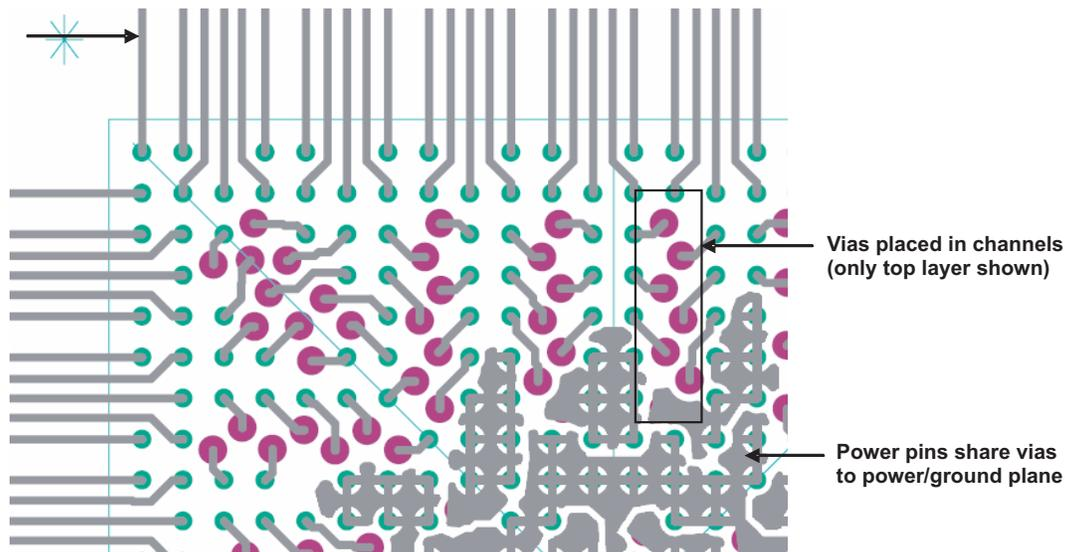

Figure 3. Vias in Via Channels
The rest of the vias need to be placed into the via channels as shown below. Figure 3 shows how the vias are grouped in the via channels.
- c. The third via can go as close as possible to the second, and so on, until all the necessary vias are placed in a pattern like the one shown on Figure 3, Figure 4, and Figure 5.
8. Connect the vias to the BGA ball pads on the top layer as shown in Figure 3.
10. Place the vias for the corners as shown in Figure 3 and Figure 4.
12. Connect the vias to the BGA ball pads on the top layer as shown in Figure 3.